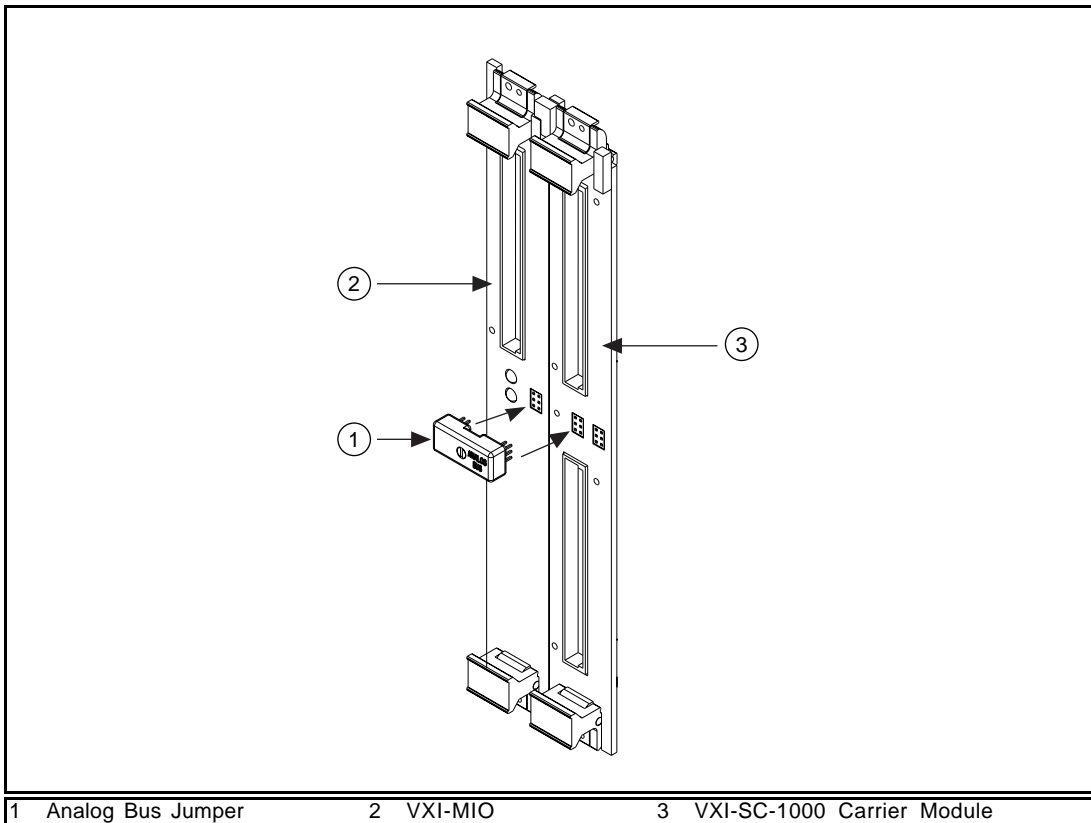

Figure 10. Installing the Analog Bus Jumper
The logical addresses associated with the submodules respond to VXI accesses only when a submodule is actually plugged into a subslot. If no submodule is present, that address will not respond to VXI accesses. When a submodule is present, all of the first address registers are aliased except the device ID, which is unique to that particular VXI-SC submodule. For compatibility across all resource managers, install your VXI-SC submodule in subslot 1 first; if an additional submodule is required, plug it into subslot 2. With these features in place, the VXI Resource Manager can identify not only the VXI-SC-1000 carrier module, but also the associated submodules. Figure 10 shows the VXI-SC-1000 carrier module switch settings for logical address 8 and 255.
2. If you are using an analog bus jumper, attach it as shown in Figure 10. Secure the jumper by tightening the retaining screw. The analog bus jumper propagates the analog signals from the VXI-SC submodules back to the VXI-MIO module.